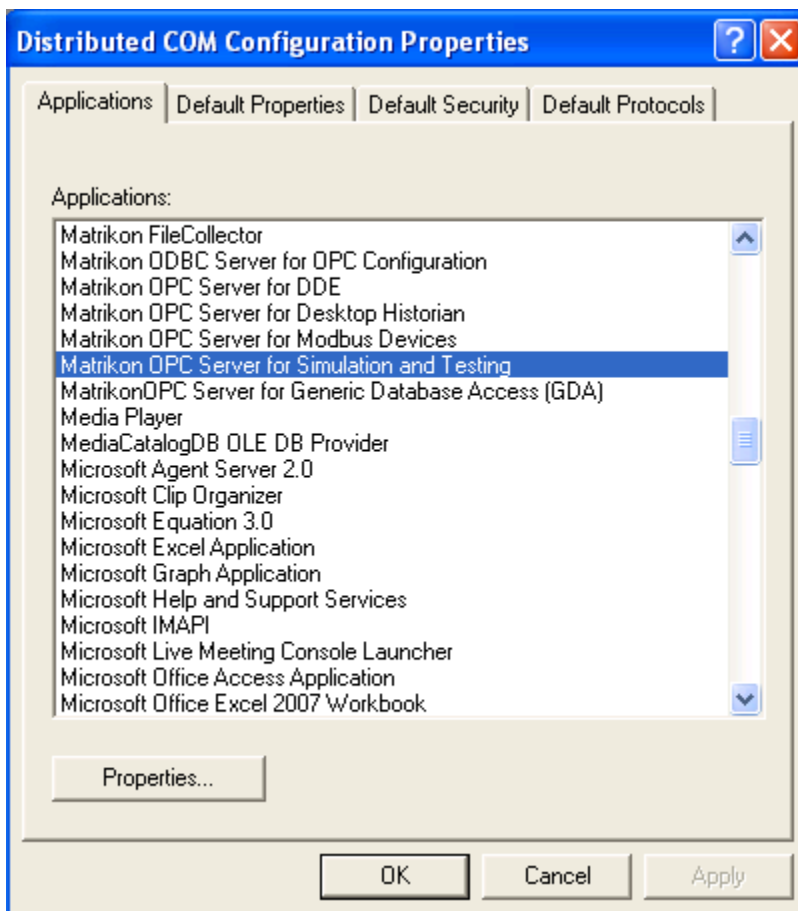

Figure 35 - Distributed COM Configuration Properties Window
3. The **Distributed COM Configuration Properties** window (Figure 35) appears.